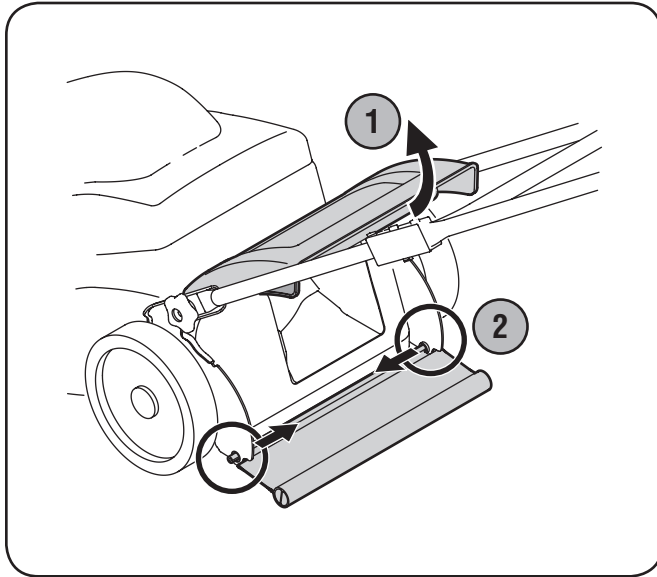

Figure 6-2
1. To remove trail shield, lift rear door, and press shield in on either side to remove from hole. See Fig. 6-2.